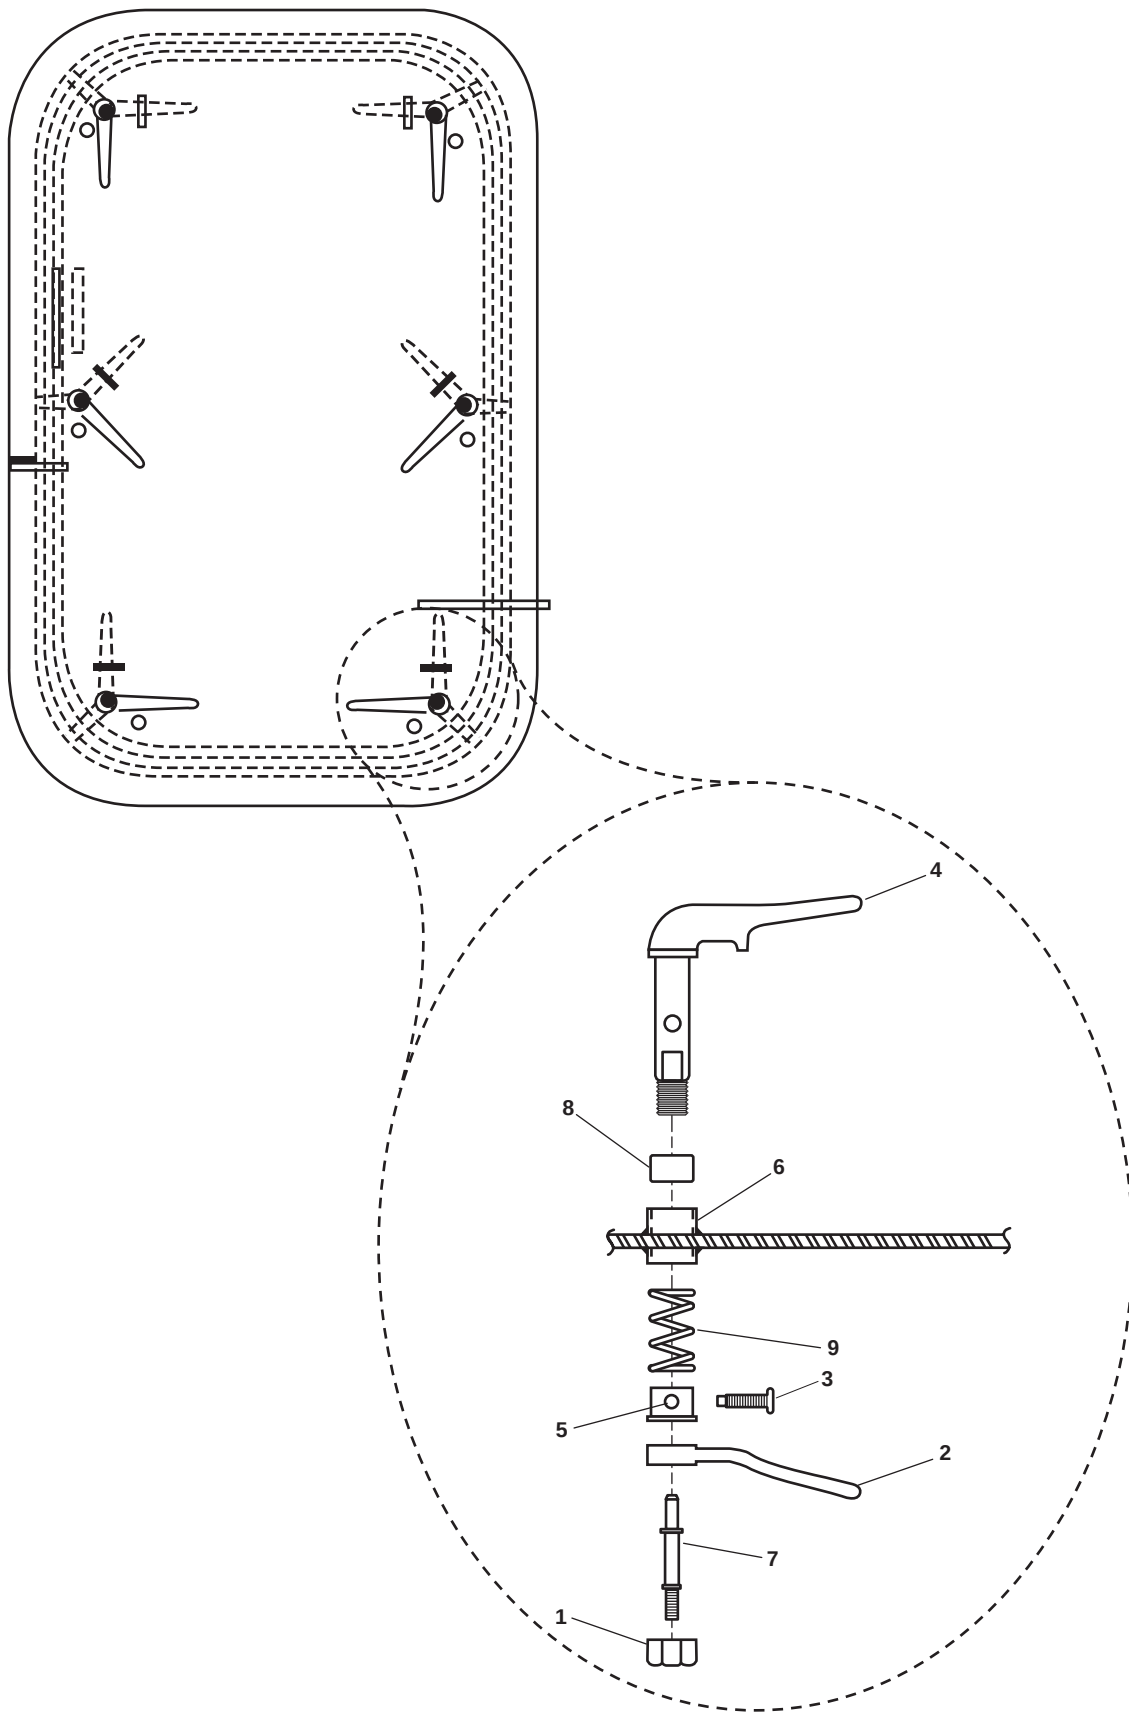

Figure 1. Watertight Door
1. Remove the jam nut (figure 1, item 1) from the handle (figure 1, item 2).
2. Remove the pin (figure 1, item 3), from the dog (figure 1, item 4) and the flanged bushing (figure 1, item 5).
3. Remove the handle (figure 1, item 2) from the dog (figure 1, item 4).
4. Remove the dog (figure 1, item 4) from the watertight door sleeve (figure 1, item 6).
5. Remove the packing plunger (figure 1, item 7) from the watertight door sleeve (figure 1, item 6). Discard the packing plunger.
6. Remove the sleeve bushing (figure 1, item 8) from the watertight door sleeve (figure 1, item 6). Discard the plain bushing.
7. Remove the flanged bushing (figure 1, item 5) from the watertight door sleeve (figure 1, item 6).
8. Remove the helical compression spring (figure 1, item 9) from the watertight door sleeve (figure 1, item 6).
1. Inspect the helical compression spring (figure 1, item 9) for cracks. Replace it if it is cracked. Apply a light coat of general purpose grease to the helical compression spring and install it in the watertight door sleeve (figure 1, item 6).
2. Lubricate the flanged bushing (figure 1, item 5) with a light coat of general purpose grease and install it in the watertight door sleeve (figure 1, item 6).
3. Lubricate a new sleeve bushing (figure 1, item 8) with a light coat of general purpose grease and install it in the watertight door sleeve (figure 1, item 6).
4. Install the new packing plunger (figure 1, item 7) in the watertight door sleeve (figure 1, item 6).
5. Install the dog (figure 1, item 4) in the watertight door sleeve (figure 1, item 6).
6. Install the pin (figure 1, item 3), in the dog (figure 1, item 4) and the flanged bushing (figure 1, item 5).
7. Install the handle (figure 1, item 2) on the dog (figure 1, item 4).
8. Install the jam nut (figure 1, item 1) on the handle (figure 1, item 2).